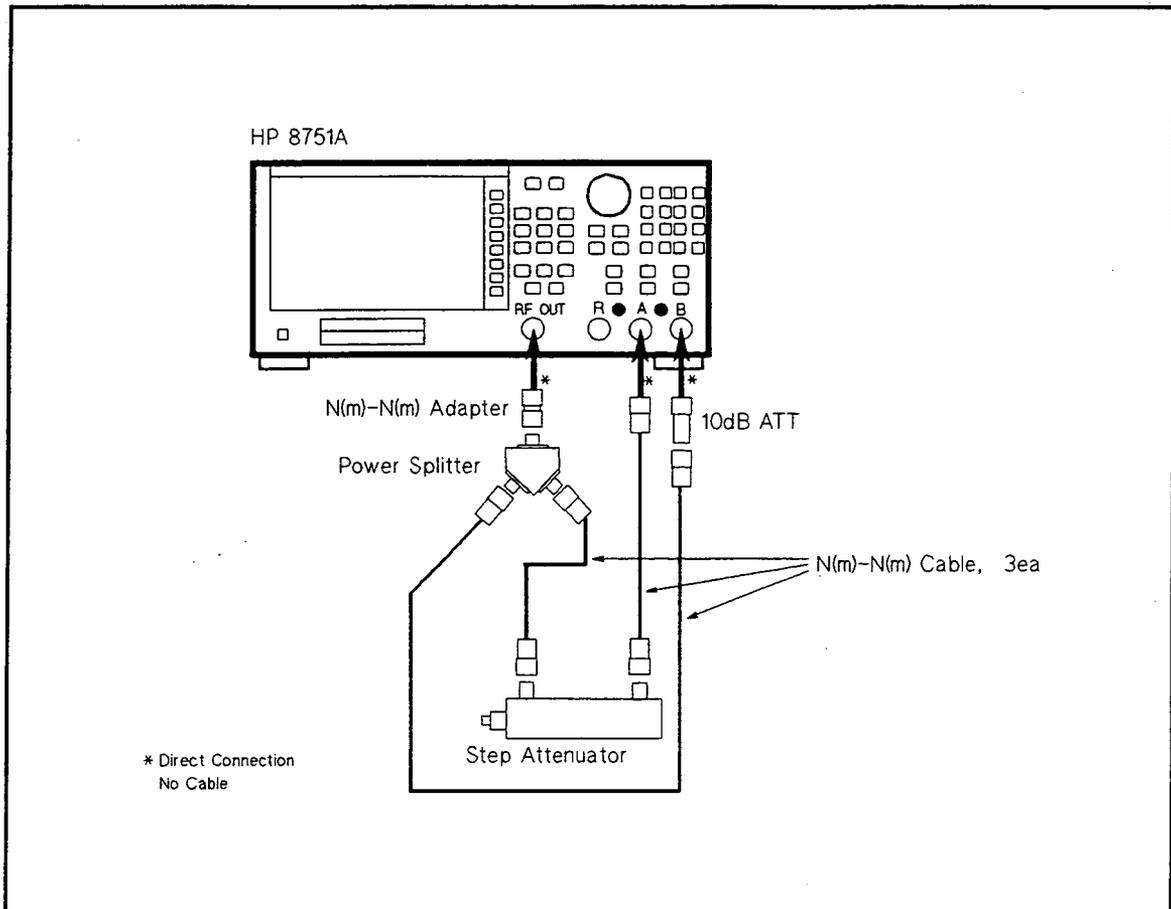

Figure 2-29. Magnitude Ratio/Phase Dynamic Accuracy Test Setup 9
- a. Change the HP 8751A connection as shown in Figure 2-29.